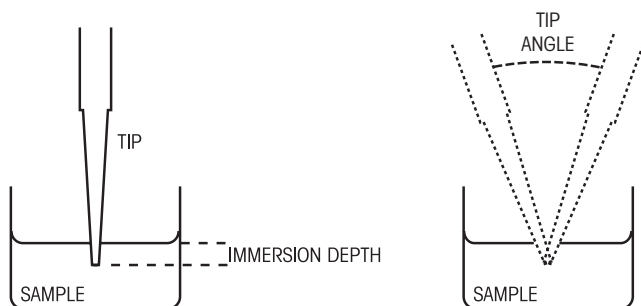

Figure 6: Tip Immersion Depth and Tip Angle
Tip immersion depth is critical and should not be exceeded, or the volume measured may be inaccurate, possibly out of specification. The tip angle is also important – the pipette should always be used in a position within 20 degrees of vertical. See Figure 6 below.
4. Consistent immersion depth. See Figure 6.